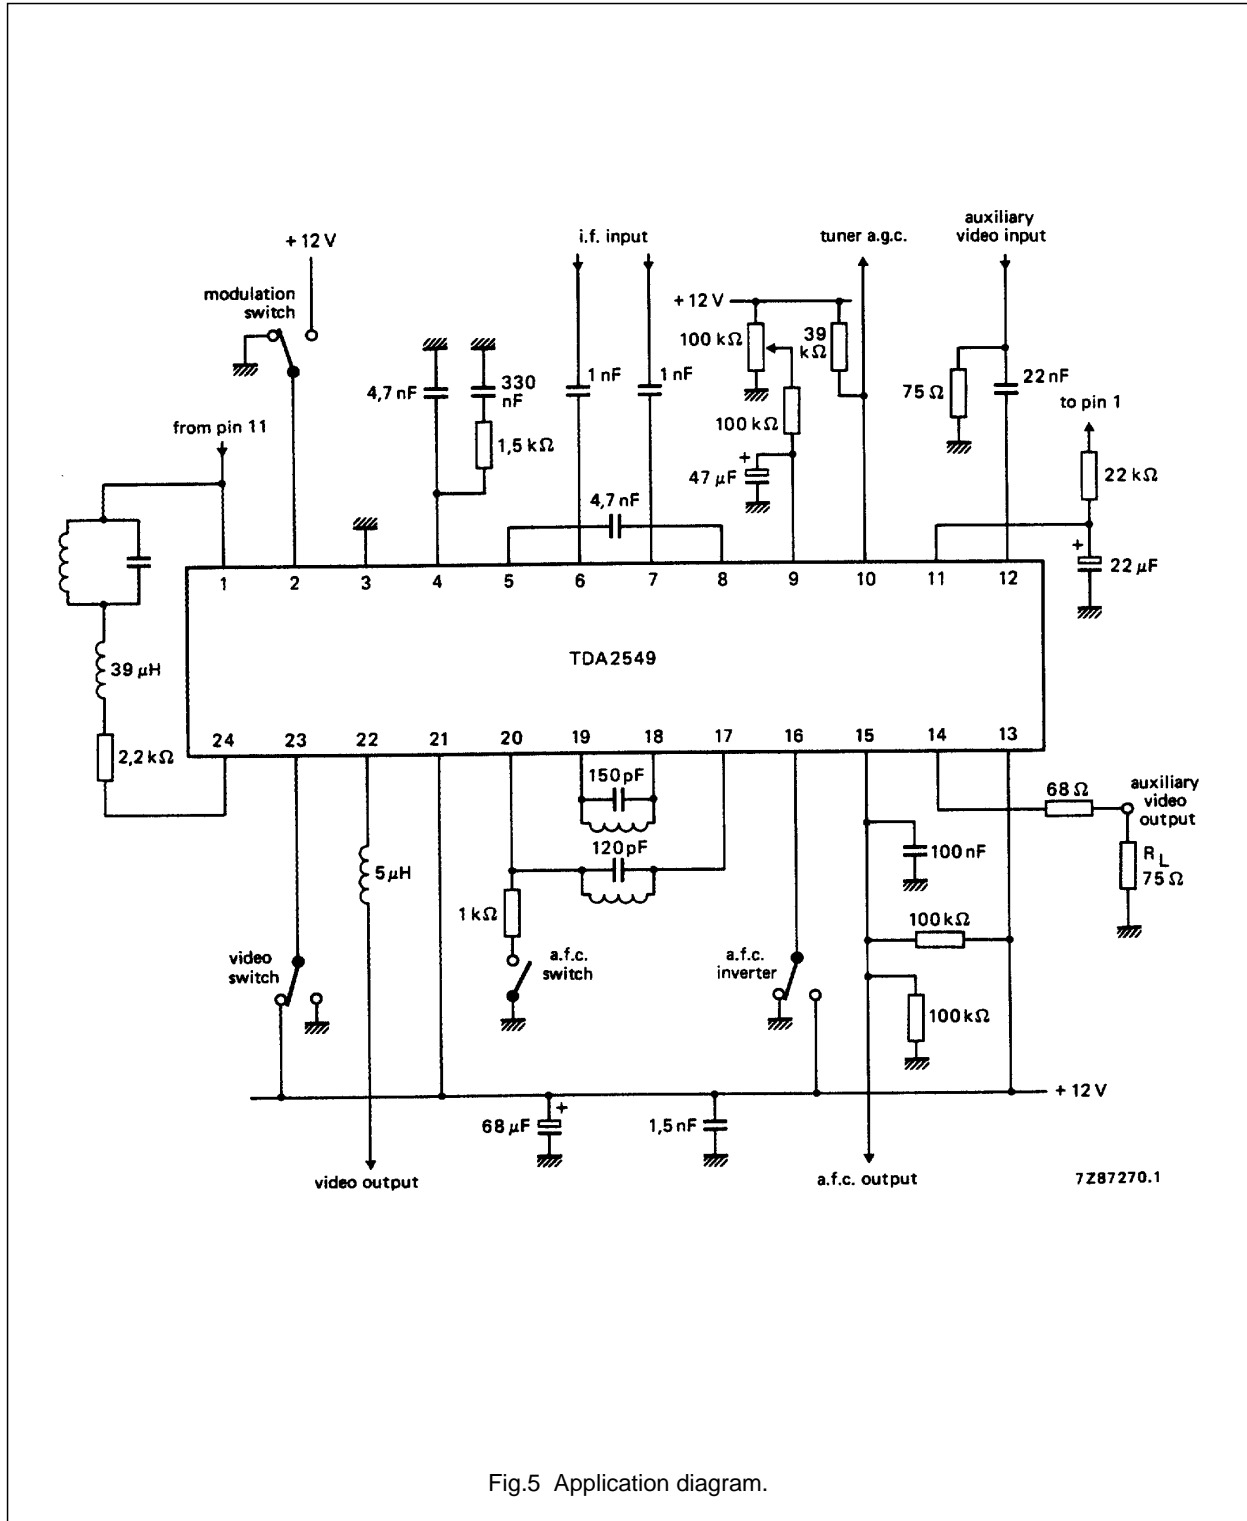

Fig.5 Application diagram.
CHARACTERISTICS (measured in fig.5)
- Measured in application of Fig. 5.